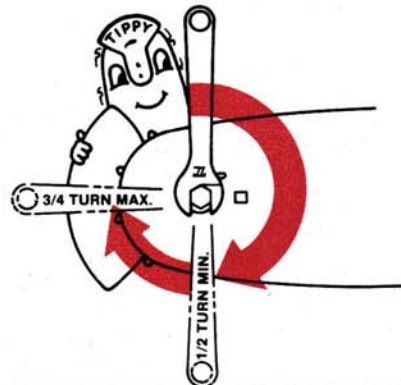

Fig. 5 — Tightening Large SAFE•T•TIP
- b) Now achieve proper tightness with a wrench by adding from 1/2 turn (minimum) to 3/4 turn (maximum). (See Figure 5.)